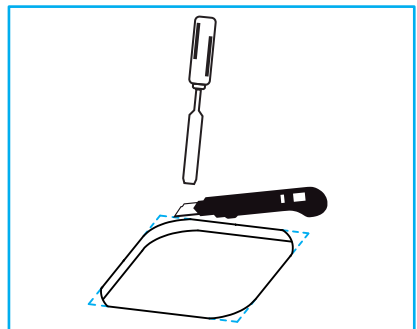

Fig.34
**Note:** For square trim installations, use a sharp utility knife to score wood, forming two square corners. Then, use a sharp wood chisel to remove the remaining material to the same depth **"Fig.34"**.